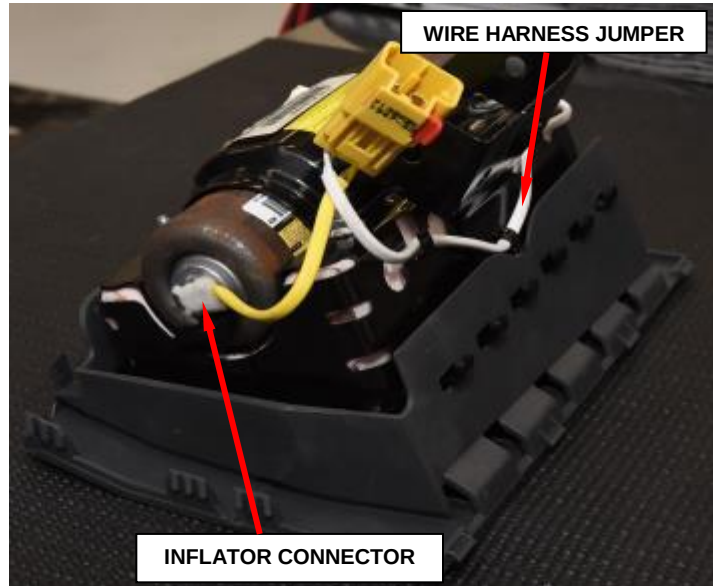

Figure 34 – Inflator Connector
- b. Disconnect the single yellow wire inflator connector from the end of the inflator using pliers (Figure 34).
- q. Connect the single yellow wire inflator connector to the end of the inflator after removing the protective tape from the end of the inflator (Figure 34).